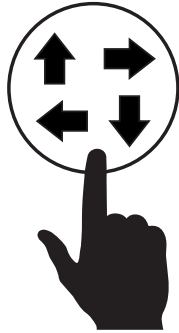

Figure 140. Mode Change Button
1. On generator #1, press the **Mode Change button** (Figure 140) on the touch display.